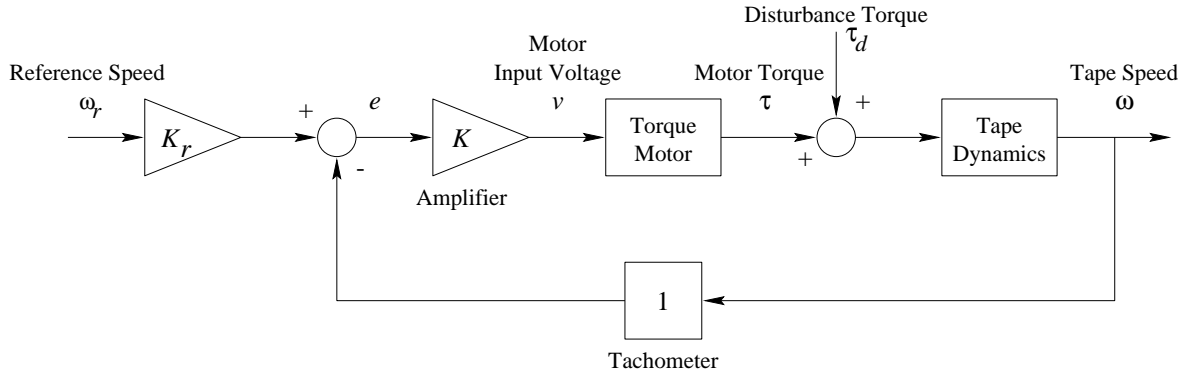

Figure 3.1: Closed-Loop System with Unity Feedback.
- Obtain an all-integrator block diagram for the system in figure 3.1. Show the intermediate variables (τ , v etc.). Note that the motor torque is the convolution of a step input with the motor's transfer function.
2. For the system in Figure 3.1, derive the relationship between the steady-state error ($e_{ss} = \omega_r - \omega$) and the natural frequency, ω_n . Consider the error as a function of both ω_r and τ_d , when both are step inputs. Since the system is linear, superposition allows the two components of e_{ss} to be calculated separately and then summed.